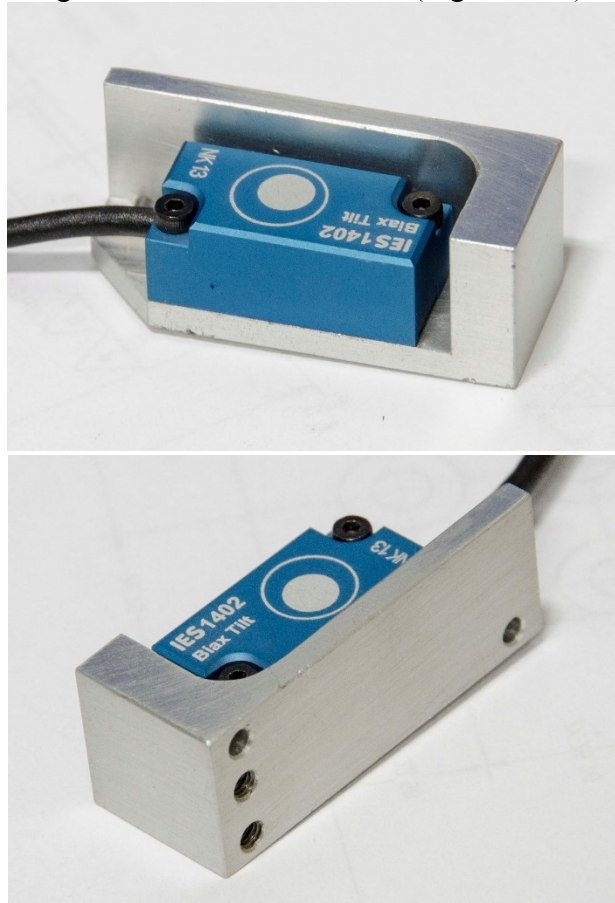

Figure 6-24. Install T6 tilt sensor to mount
6.2.2.18 Install the Dual Axis Tilt Sensor (SA572-S44) to the T6 Tilt Sensor Mount (472-3783), using two M2 x 0.4 x 10 SHCS (Figure 6-24).